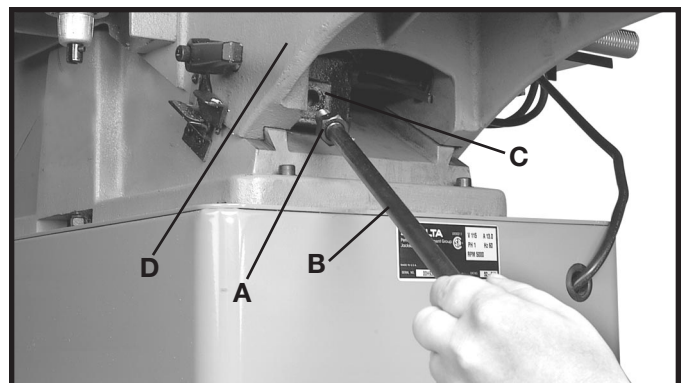

Fig. 8
1. Thread an M14x2 hex nut (A) Fig. 8, clockwise onto the end of adjustment handle (B) as far as it will go.
2. Thread handle (B) Fig. 8, into block (C) which is located under infeed table (D). Tighten hex nut (A) Fig. 8, against block (C).